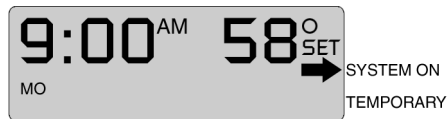

Fig. 26
- e. Press **Cooler** until the setting is 10°F (6°C) below room temperature (Fig. 26).